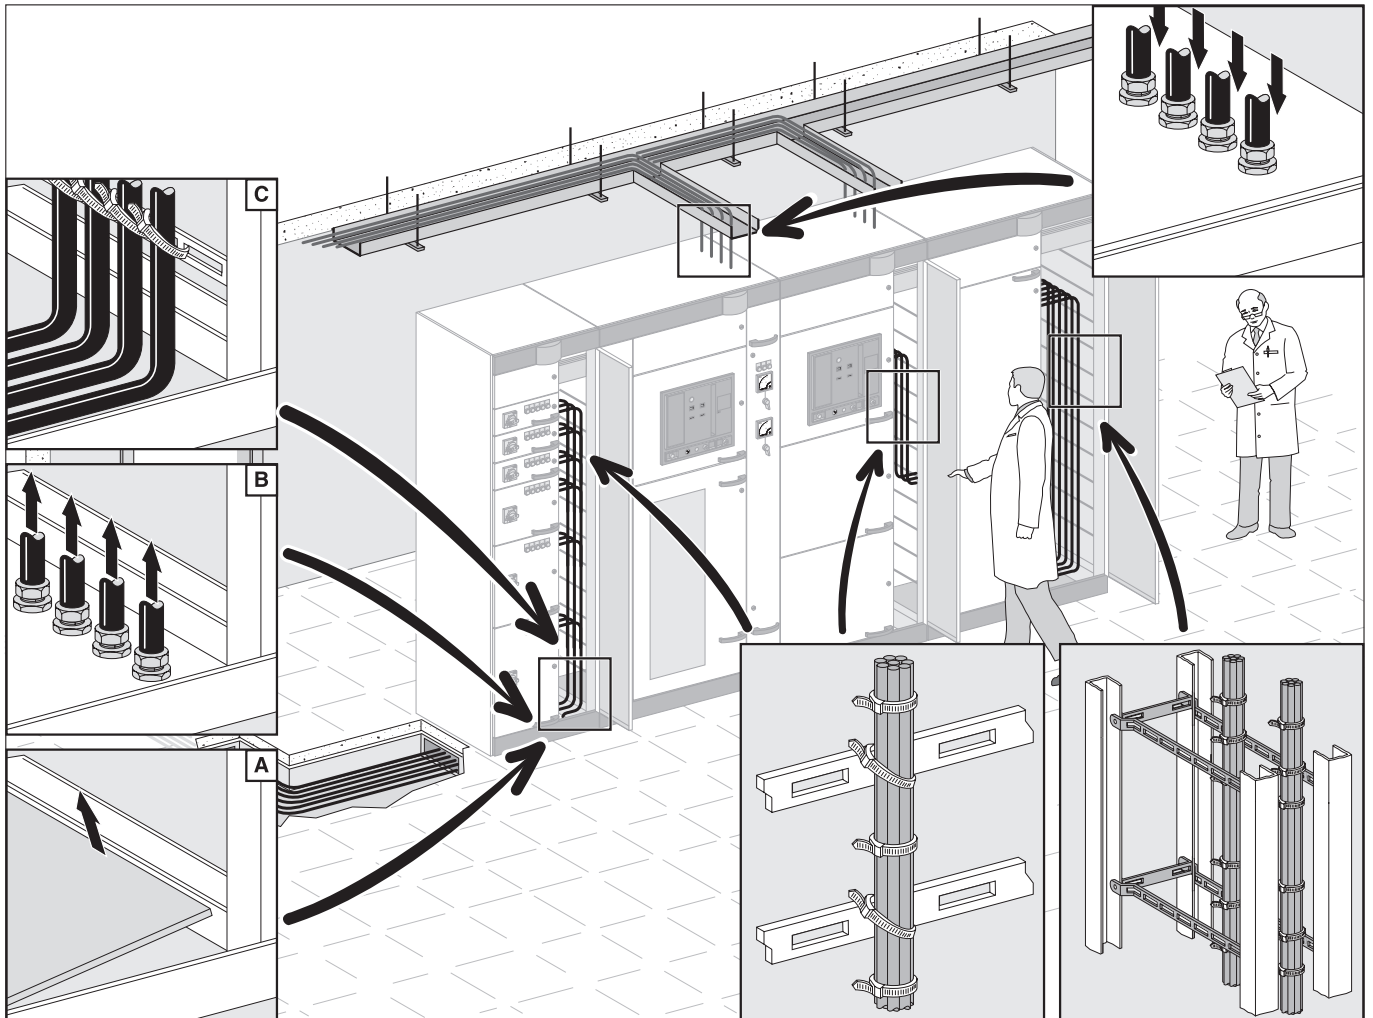

Fig. 26
- The cables must run in the intended ducts and be secured to cable tie-bars every 400 mm (see Fig. 26).
Bundle cables circuit by circuit. The number of cables in each bundle depends on the diameter of the cables (see Fig. 26).